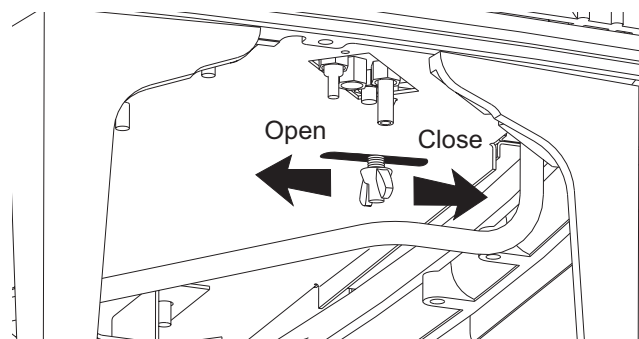

Figure 12. Locate and remove the Air Shutter wingnut from under the right side of the stove.
6. Reach under the stove and remove the Air Shutter wingnut from its stud. As you face the right side, it is the one closest to you. See fig. 12.
19. **Adjust the Air Shutter.** You will need to position the shutter to provide a gas/air mixture that will achieve the best flame picture with your particular installation. Start with the shutter stem at the half-way position in the slot in the bottom of the stove. See fig. 12. Pushing the stem back will restrict air, while pushing it forward will open the shutter and increase air. With some experimentation, you will find the shutter position that works best for your installation.